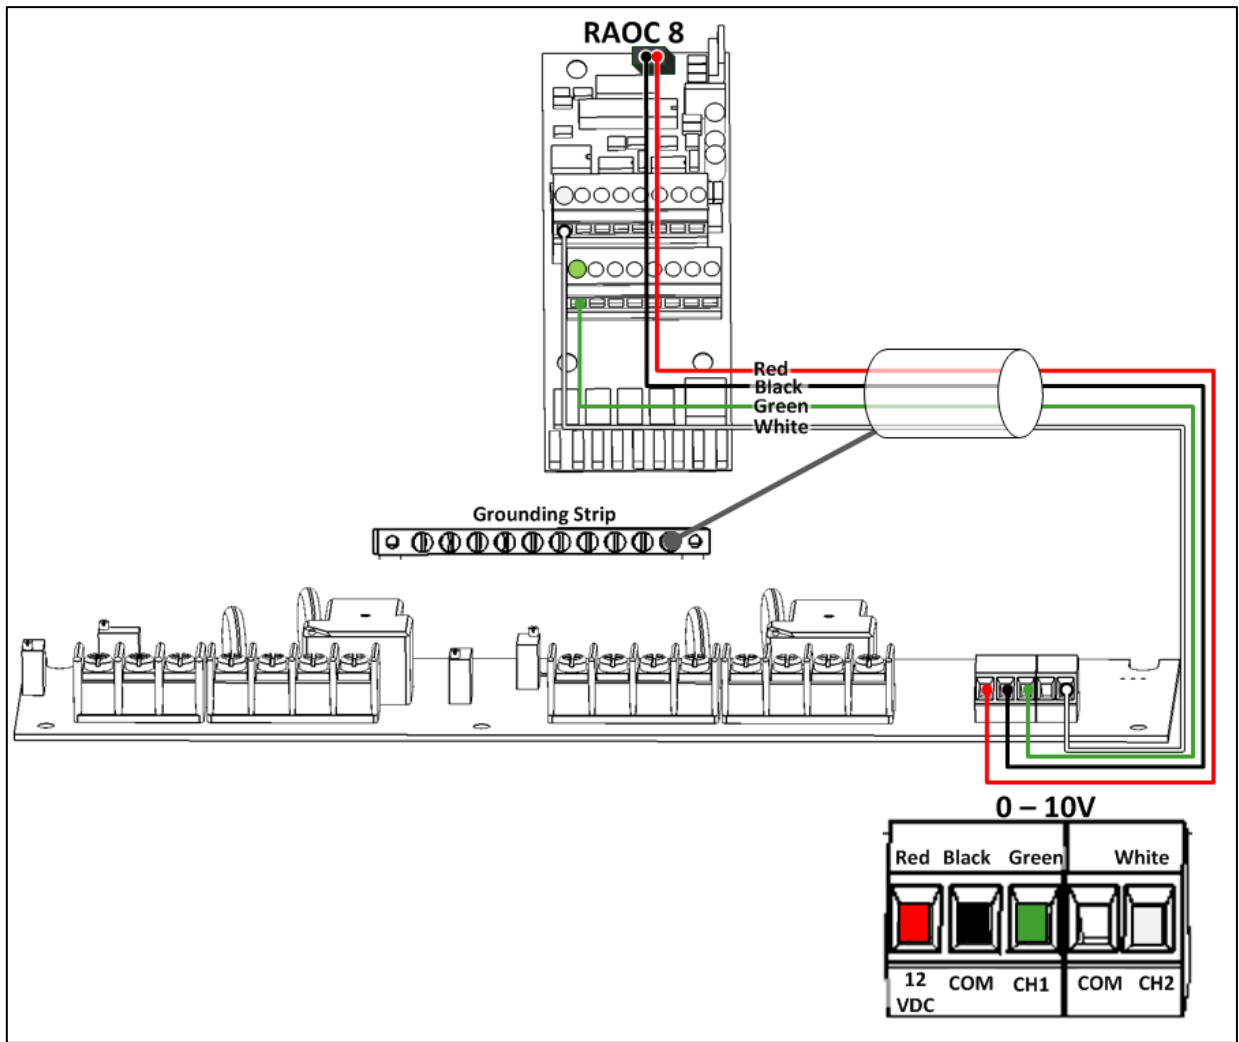

Figure 46: Variable speed card to analog card wiring
3. Wire the Variable Speed Card to the Platinum's Analog Output card (Figure 46).